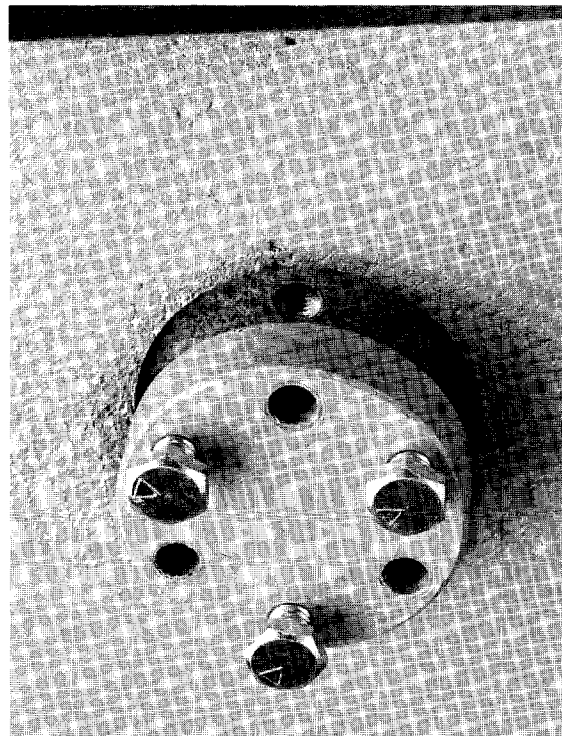

Fig. 52
- 4b. Models 7660 & 8480: Remove the bolts which hold each bearing pin in place. To remove the pins, thread the bolts into the tapped holes and turn. The pin will then be driven out. (Figure 52).